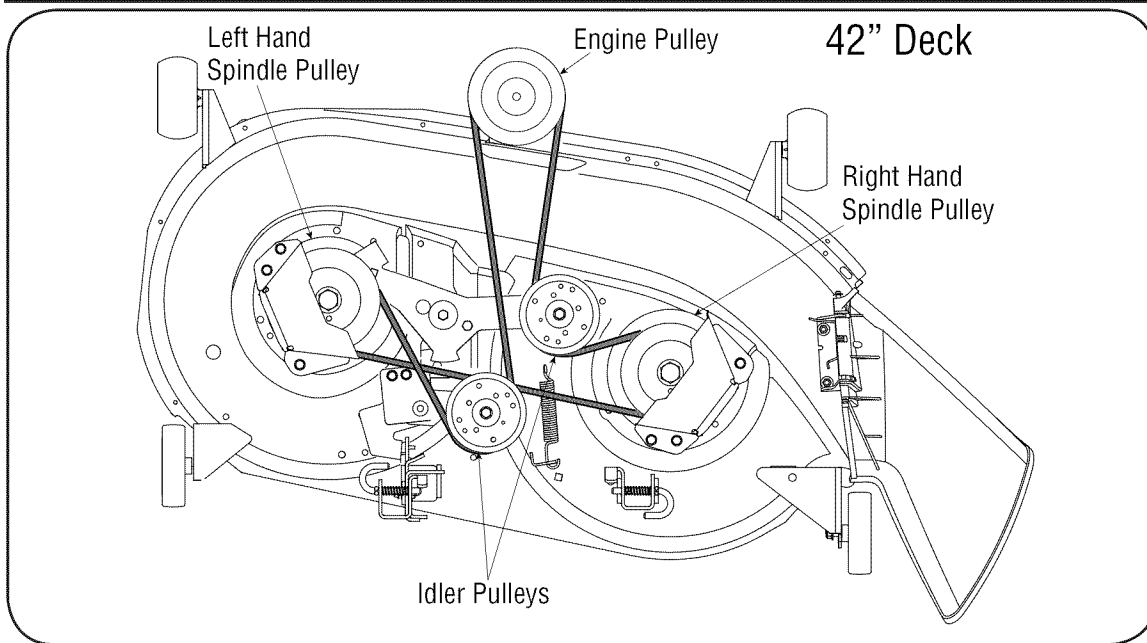

Figure 26
6. Route the new belt as shown in Figure 26, 27, and 28 and retighten the deck idler pulleys.